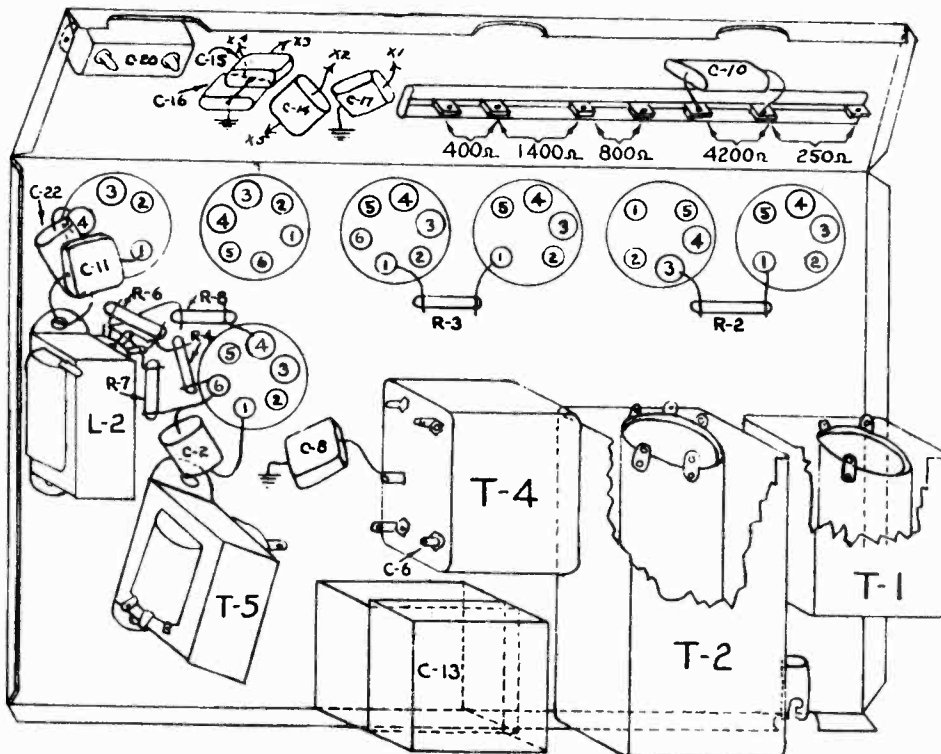

Fig. 4 PARTS LOCATING DIAGRAM
- Peak the I.F. condenser (C-6 on Fig. 4) which is on the I.F. coil located on the bottom of the chassis. Then peak the two condensers (C-4 and C-5 on Fig. 3) located on front of the Oscillator I.F. coil, peaking the plate coil condenser C-4 first.